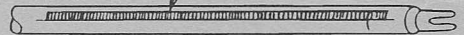

FIGURE 3.
4. Remove liner to expose adhesive tape. First contact the rear end of a vane on the locating line at aft mark, then the front end. Firmly rub down vane to arrow. Rub off excess tape at both ends of vane. When all three vanes are fletched, use 3/16 inch black tape to wrap 1-1/2 times around arrow shaft at both ends of vanes. Contact 1/8 inch at front end and 1/16 inch at rear end of vanes. See Figure 3.